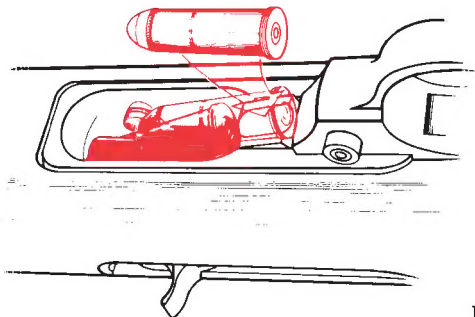

Figure 3
4. Holding the rifle upside down, and using a cartridge (as illustrated in Figure 3), depress the lifter latch and then the lifter in one smooth motion. As the lifter is depressed the rear end of the magazine can be seen. Using the thumb of the right hand, push the cartridge fully into the magazine until the base of the cartridge is held by the inside end of the magazine release button. A maximum of four cartridges may be so loaded into the magazine. *Remember there is a cartridge in the chamber!*
2) Turn the rifle upside down (the position as shown in Figure 3) and press the magazine release button inward with the thumb. One at a time the cartridges can then be removed from the magazine. **WARNING:** When emptying the magazine be certain every cartridge is removed. Do not trust to 'feel'. Visually inspect and be certain the magazine follower is visible. **WARNING: EMPTYING THE MAGAZINE DOES NOT PREVENT THE RIFLE FROM BEING FIRED. CHECK THE CHAMBER AFTER EMPTYING THE MAGAZINE TO BE CERTAIN THE CHAMBER IS EMPTY.**